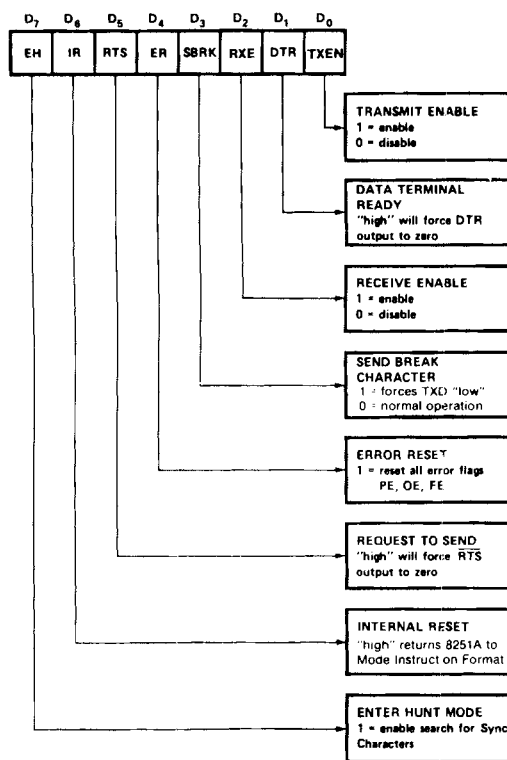

Figure 3-5. USART Command Instruction
The Command instruction word, shown in figure 3-5, controls the operation of the USART. A Command instruction must follow the MODE and/or Synchronization words. Once the Command instruction is written, data may be transmitted or received by the USART.
It is not necessary for the Command instruction to precede all data transactions; only transmissions that require a change in operating format need this instruction. Refer to figure 3-5 for the Command Instruction Format. The Command instruction can be written to the USART at any time after the Mode Word has been written.
- Write an appropriate Command instruction, setting or resetting selected bits according to the details illustrated in figure 3-5.